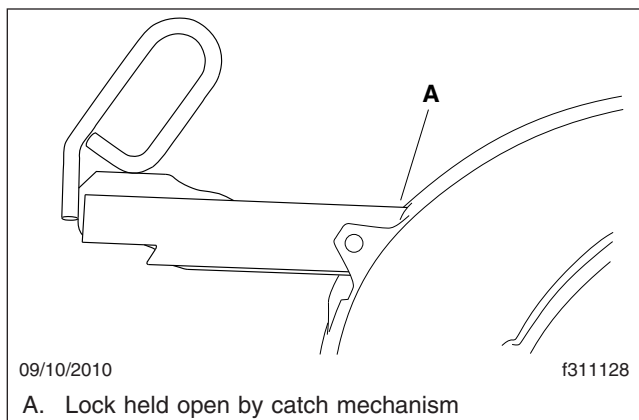

Fig. 17.7, Jost Release Handle Unlocked
2. Open the kingpin locks. See Fig. 17.7.
- 6.3 **Jost:** Pull the retractable handle out, then secure it in the open position with the catch. See Fig. 17.7.